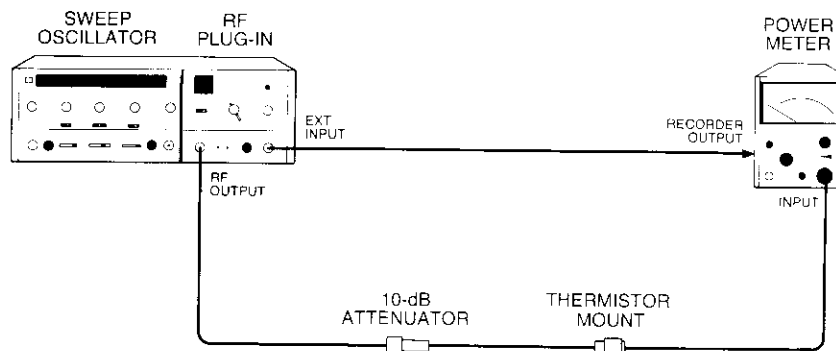

Figure 5-15. Power Meter Leveling Setup
- a. Connect equipment as shown in Figure 5-15.